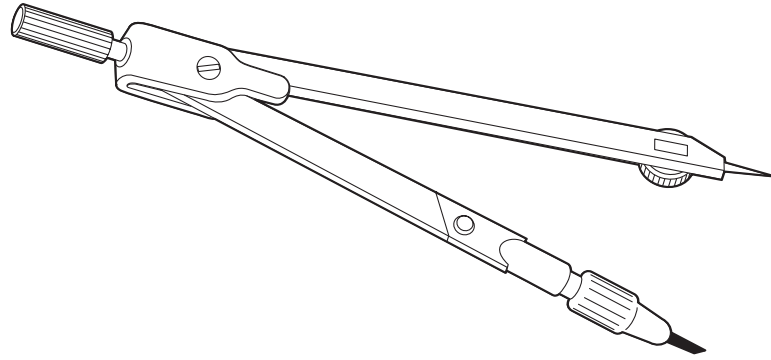

Fig. 4
- (iv) Use notes and sketches to show how the compasses shown in Fig. 4 can be modified to hold a felt-tipped pen.